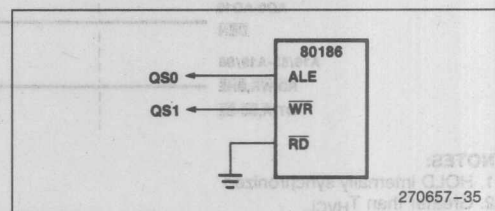
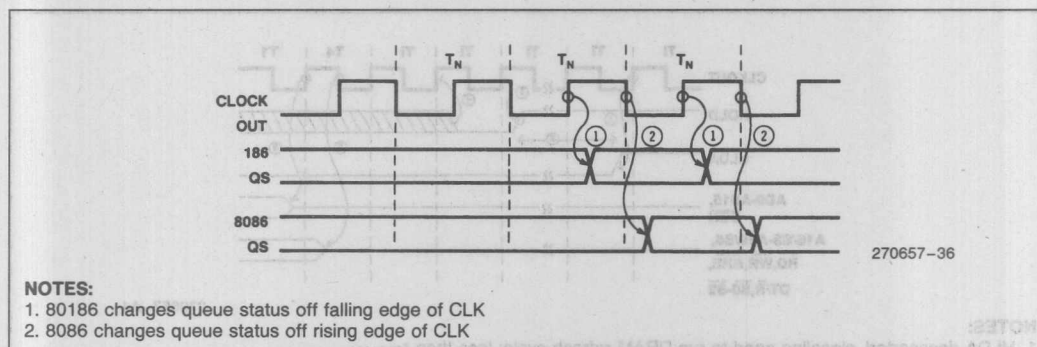

Figure 29. Generating Queue Status Information from the 80186
Figure 30. 80186 and 8086 Queue Status Generation
- 3) The 80186 \overline{RD} input must be tied low to provide queue status outputs from the 80186 (see Figure 29). When so strapped into "queue status mode," the ALE and \overline{WR} outputs provide queue status information. Notice that queue status information is available one clock phase earlier from the 80186 than from the 8086 (see Figure 30).